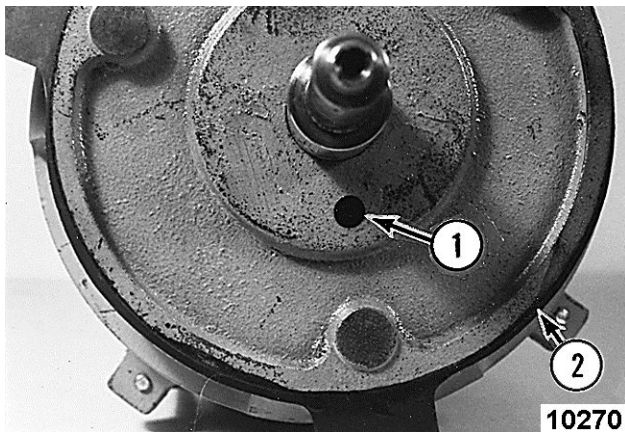

Fig. 104
1. Verify that the oil drain hole [1] Fig. 104 is open.
2. Check the O-ring seal [2] Fig. 104. Replace if damaged.